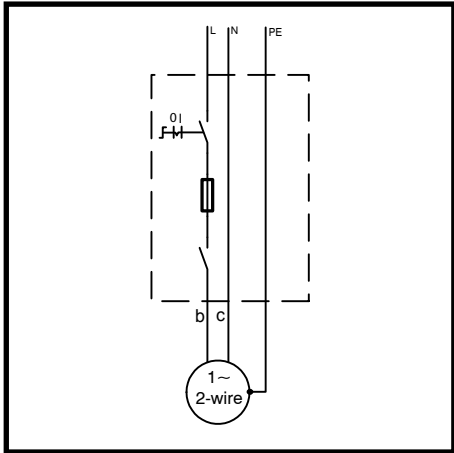

Fig.: 16
2. Raccordement Super Stainless 2-wire (Fig.: 16)